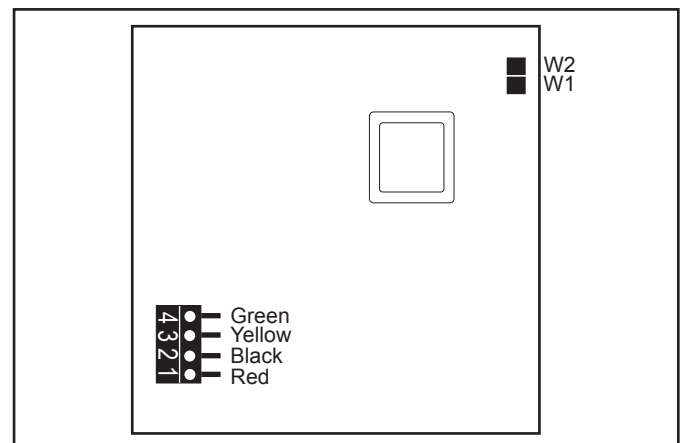

Figure 23. OneTouch PCB - Back View
- Wire the 4-conductor cable to the red, 4-pin terminal bar (see Figure 23). Push the 4-pin terminal bar onto the back of the OneTouch PCB. Place the PCB with LCD and buttons back into the box. Insert the screws and hand tighten. **Do not overtighten.** Snap the faceplate into place.